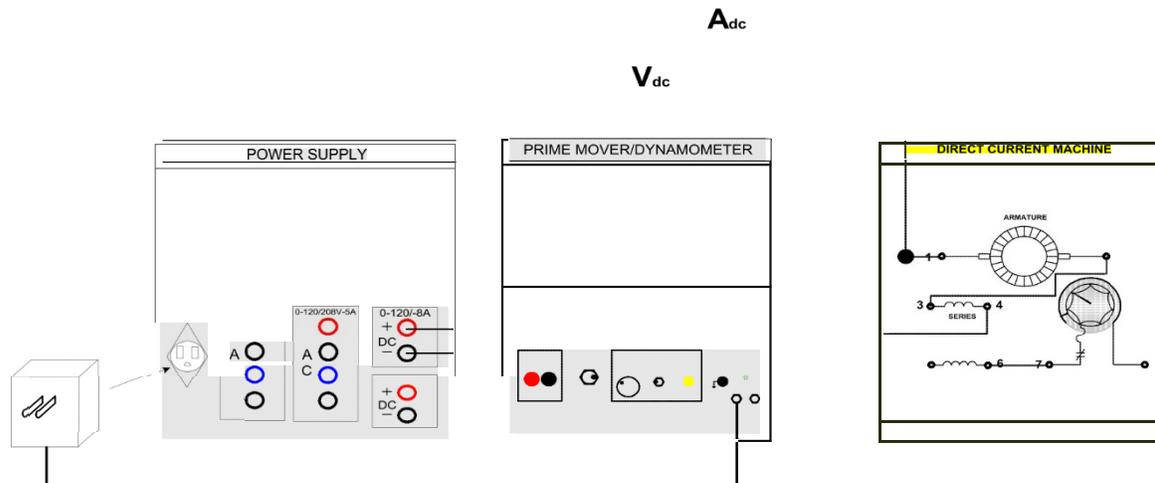

FIGURE 11.12
Step 1: Using your EMS Power Supply, DC Motor/ Generator, the Data Acquisition Interface (DAI) modules in the EMS workstation and Electrodynamicometer Modules, connect the circuit shown in Figure 11.12.